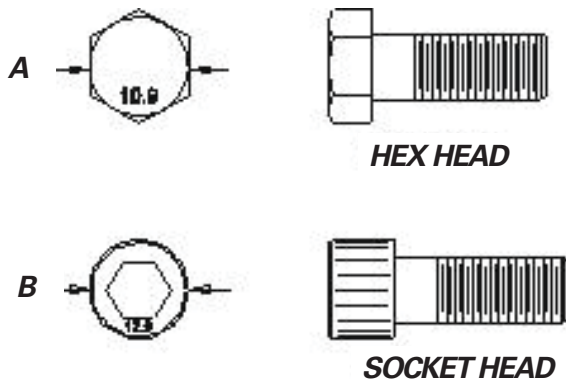

FIGURE 5-2
1. Always replace bolts and nuts with the same size and class of fastener. Replacement fasteners can be ordered from the Stanley LaBounty Parts Department to ensure the correct part is used (refer to **Figure 5-2**). Unless otherwise specified, use class 10.9 metric hex head capscrews, class 10.9 metric flat head capscrews, and class 12.9 metric socket head capscrews.